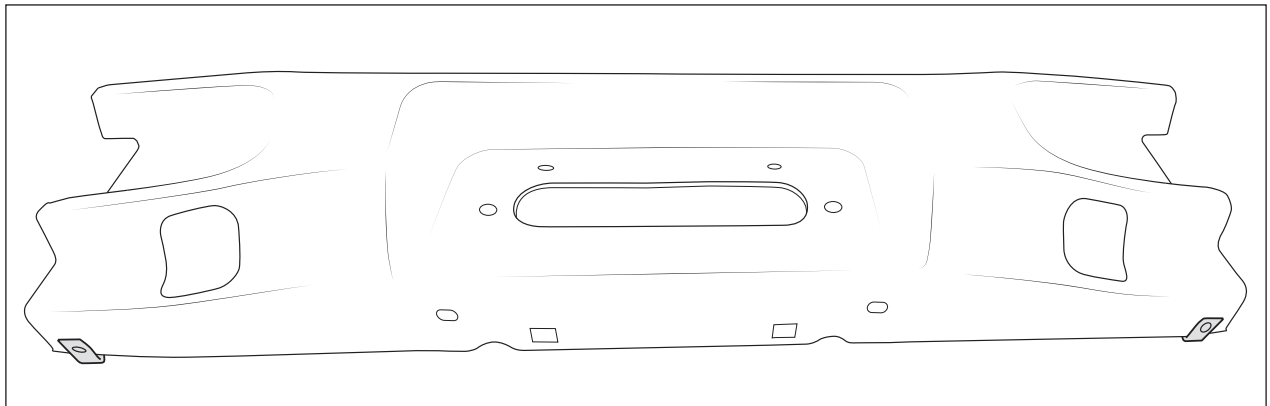
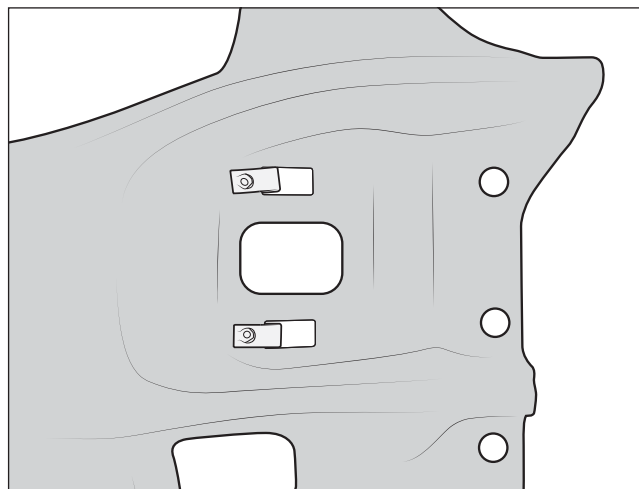

Figure 20
Figure 21
1. Install provided (large) M8 U-nuts to the bottom outboard holes of the bumper center (fig 20) and (small) #8 u-nuts to front face around fog light openings (fig 21).